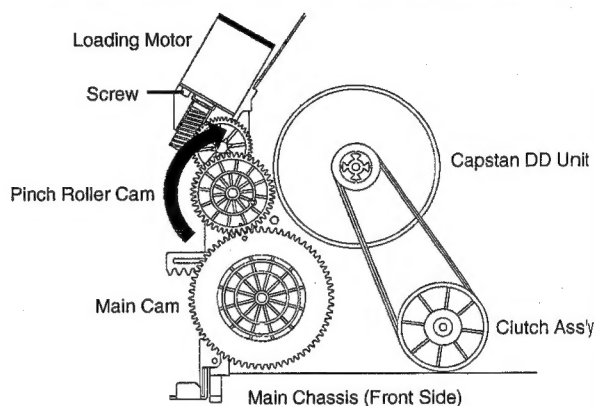

Fig. 2
3. Rotate the Pinch Roller Cam in the direction of the arrow by hand to slacken the Video Tape. (Refer to Fig. 2)